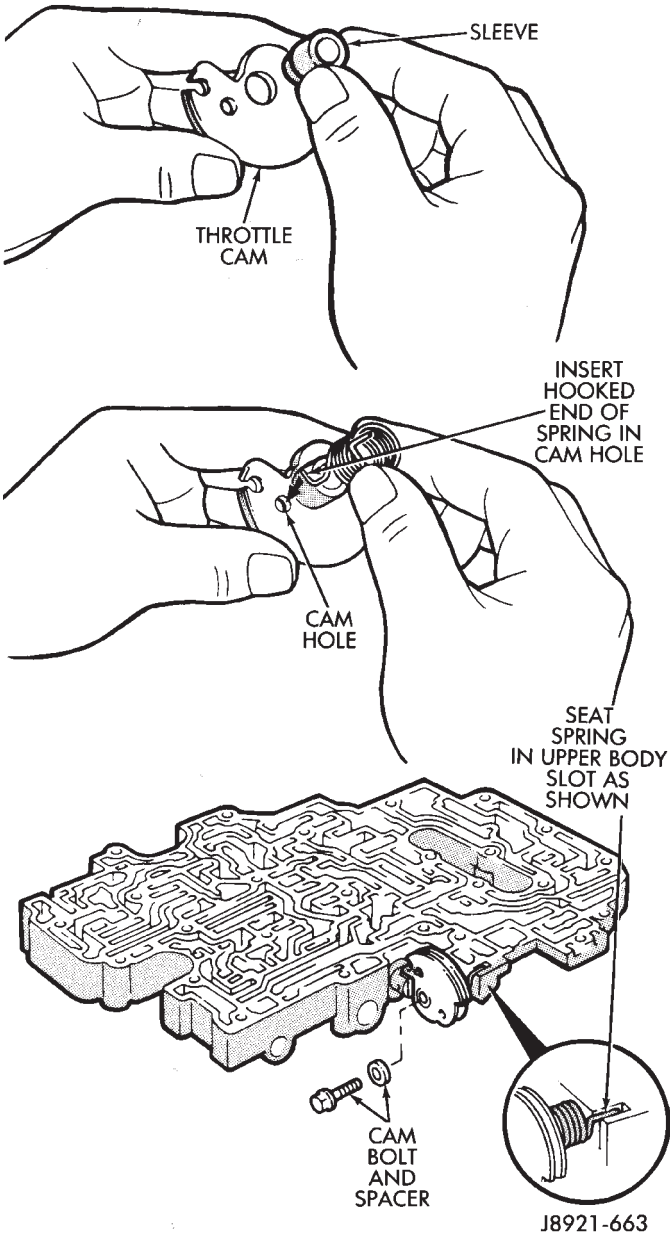

Fig. 20 Installing Throttle Cam
- (15) Install sleeve in throttle cam (Fig. 20).
- (16) Install spring on cam (Fig. 20). Hook curved end of spring through hole in cam as shown.
- (17) Mount cam on upper body and install cam attaching bolt and spacer (Fig. 20). Tighten bolt to 10 Nm (7 ft. lbs.) torque.
- (18) Be sure straight end of spring is seated in upper body slot as shown (Fig. 20).